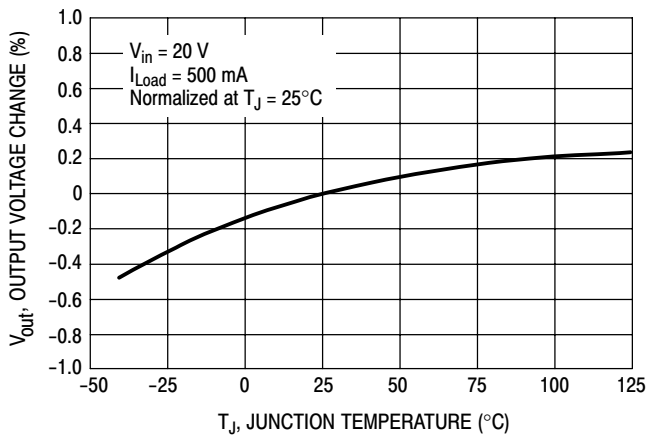

Figure 2. Normalized Output Voltage
1. Programming Output Voltage To select the right programming resistor R1 and R2 value (see Figure 2) use the following formula: $V_{out} = V_{ref} \left( 1.0 + \frac{R2}{R1} \right) \text{ where } V_{ref} = 1.23 \text{ V}$ Resistor R1 can be between 1.0 k and 5.0 k $\Omega$ . (For best temperature coefficient and stability with time, use 1% metal film resistors). $R2 = R1 \left( \frac{V_{out}}{V_{ref}} - 1.0 \right)$	1. Programming Output Voltage (selecting R1 and R2) Select R1 and R2: $V_{out} = 1.23 \left( 1.0 + \frac{R2}{R1} \right) \text{ Select } R1 = 1.8 \text{ k}\Omega$ $R2 = R1 \left( \frac{V_{out}}{V_{ref}} - 1.0 \right) = 1.8 \text{ k} \left( \frac{8.0 \text{ V}}{1.23 \text{ V}} - 1.0 \right)$ $R2 = 9.91 \text{ k}\Omega, \text{ choose a } 9.88 \text{ k metal film resistor.}$